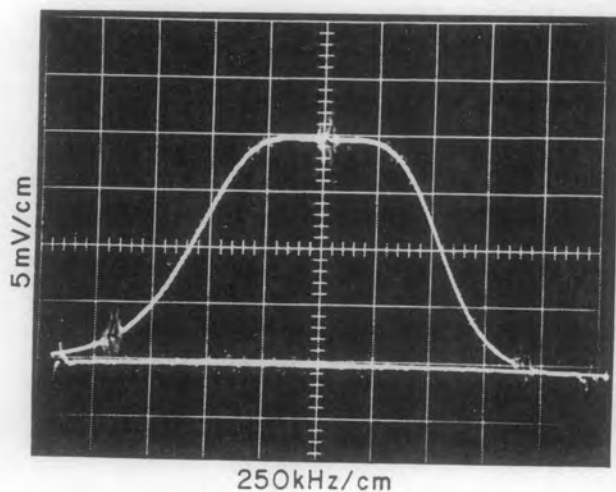

Figure 4-17. Typical Overall Response at 20 MHz
- (4) Tune the sweep generator to 26 MHz and turn on 1 MHz COMB markers. Set the output level of the generator to -30 dBm.
- (5) Adjust the sweep generator and oscilloscope controls to display a response curve. (The oscilloscope vertical sensitivity setting is shown on the left-hand margin of Figure 4-17.) The rf response should appear similar to Figure 4-17.
- (6) If the response curve does not appear similar to Figure 4-17, adjust capacitors A1C28, A1C33, A1C36, and A1A1C4 until it does. Adjust A1C33 for 1 MHz minimum bandwidth at 26 MHz.
attempted unless considered absolutely necessary (unless, for example, the five section inductuner L1A-L1E is replaced). The shape and positioning of A1L7 and A1L9 is extremely critical. If responses similar to Figures 4-17 and 4-18 cannot be obtained, the tuner should be sent back to the factory for alignment.
- (8) Adjust the sweep generator and oscilloscope controls to display a responsive curve. It should appear similar to Figure 4-17.
- (9) If the response curve does not resemble Figure 4-17, adjust A1L7 and A1L9 (by spreading or compressing the turns as required) until it does.
- (10) Repeat the alignment procedure at 26 and 90 MHz until the interaction between the adjustments in steps (6) and (9) is at a minimum.